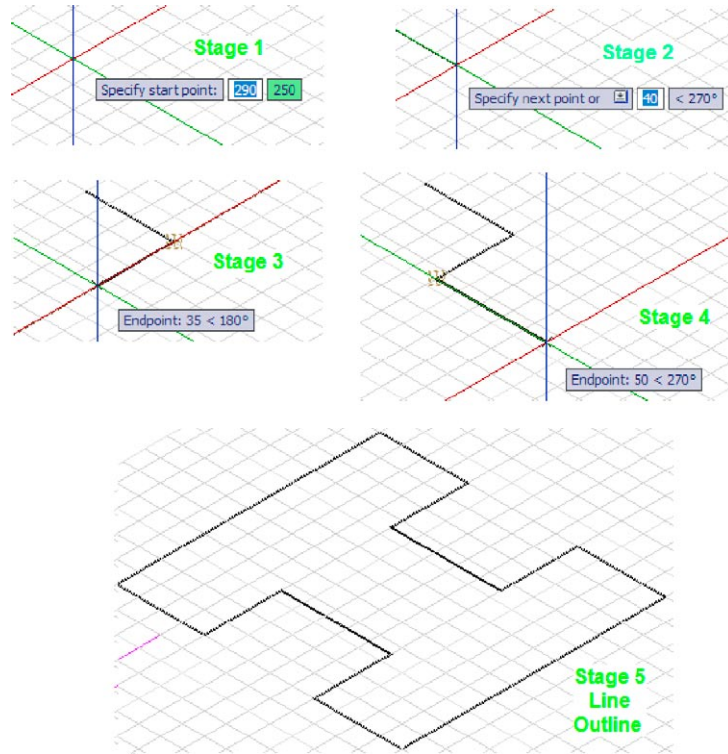

Fig. 12.34 Example – constructing the **Line** outline
1. Using the **Line** tool from the **Home/Draw** panel construct the outline (Fig. 12.34).
The stages of producing the extrusion are shown in Figs 12.34 and 12.35. The resulting 3D model is a surface model.